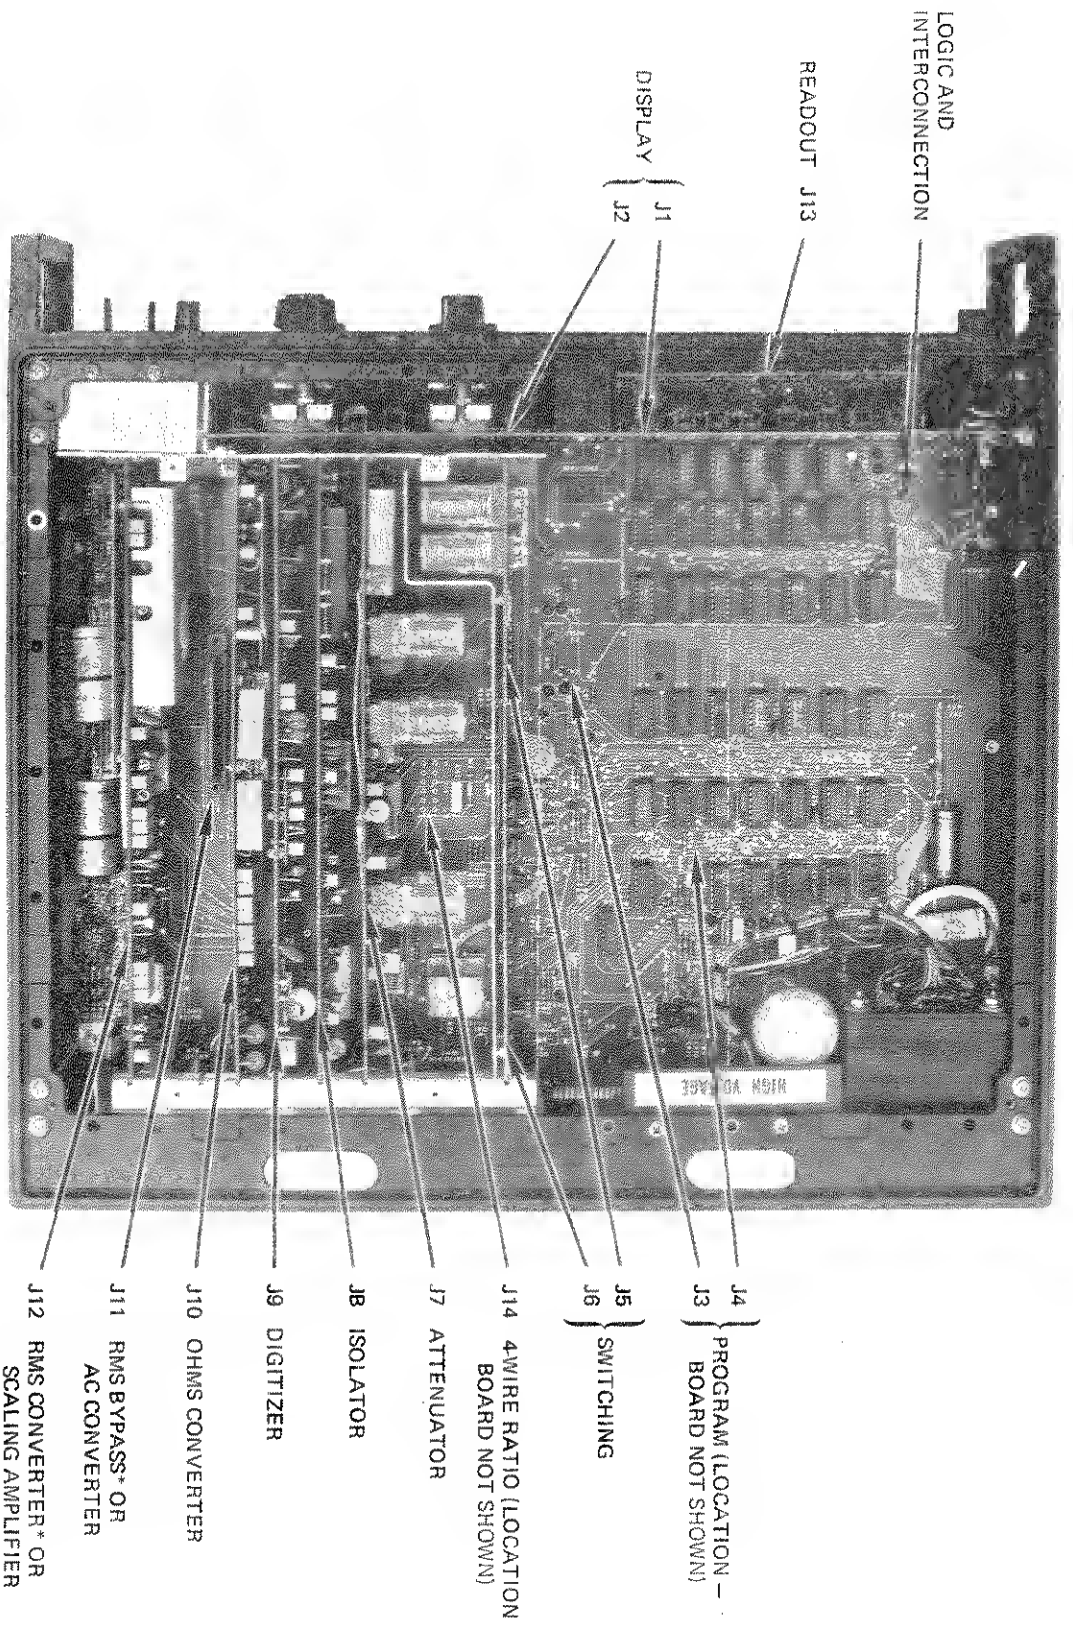

Figure 4.1 - Mechanical Assembly
4.4 The Model 5900, shown in figure 4.1, consists of a large, single, printed circuit Logic and Interconnection board (Main Logic) with as many as 12 separate PC boards plugging directly or indirectly (by means of cables) into the Main Logic board. The electronics are housed in a sturdy die cast and stamped aluminum package with the readout, input terminals, and all manual controls located on the front panel. On the back panel is located the power cable input, all data output, optional remote input, analog output, external reference, and optional rear inputs.